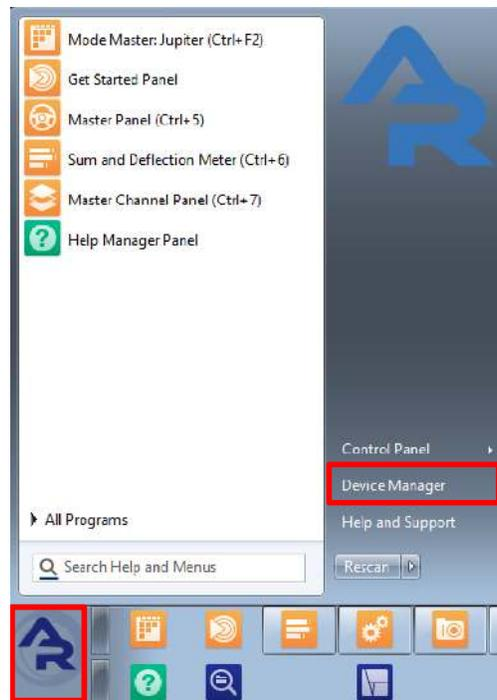

Figure 15.3.: Opening the software Device Manager.
- Verify that all the components are identified in the software by clicking 'AR' button and selecting the 'Device Manager'. (See Figure 15.3 on page 199.)